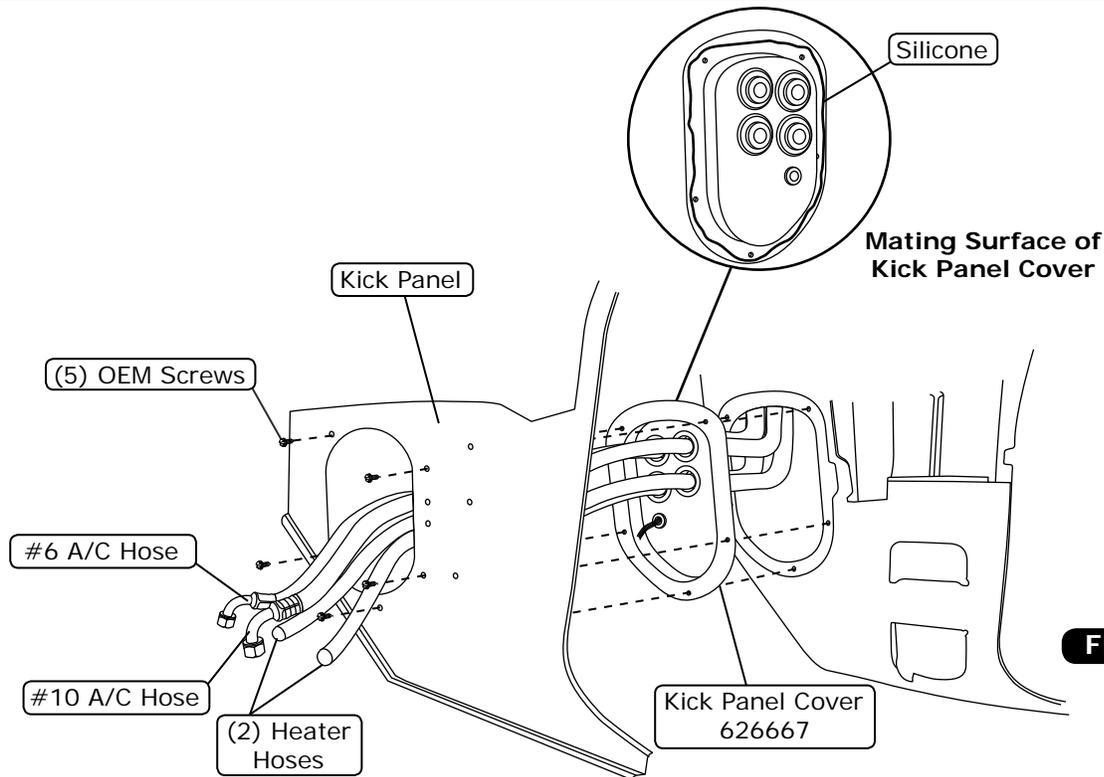

Figure 1
1. Route the A/C and heater hoses through the kick panel cover as shown in Figure 1, below.
2. Apply 1/4" bead of silicone around the back side of the kick panel cover as shown in Figure 1, below.
3. Secure the kick panel cover and kick panel using OEM screws as shown in Figure 1, below.